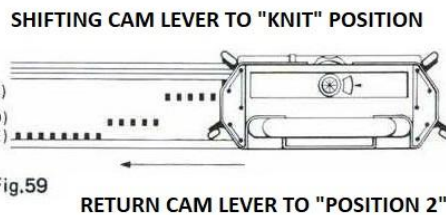

Fig.59
- (d) Push back from position (E) into position (D) the number of needles according to the degree of slope required. Knit one row. (Fig.59) It will be seen that the needles pushed back to position (D) will knit and, will be automatically returned to position (B).